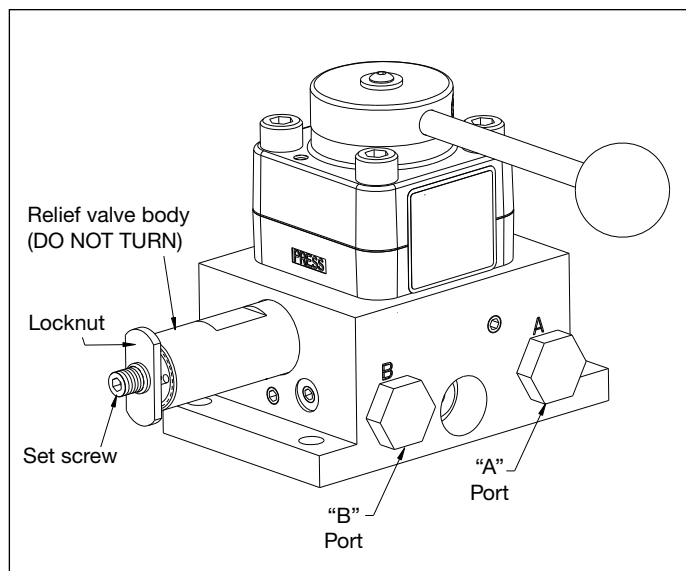

Figure 13, Relief Valve - VM43-LPS
1. Install a 0-15,000 psi [0-1,035 bar] gauge in the "A" port (see Figure 13).